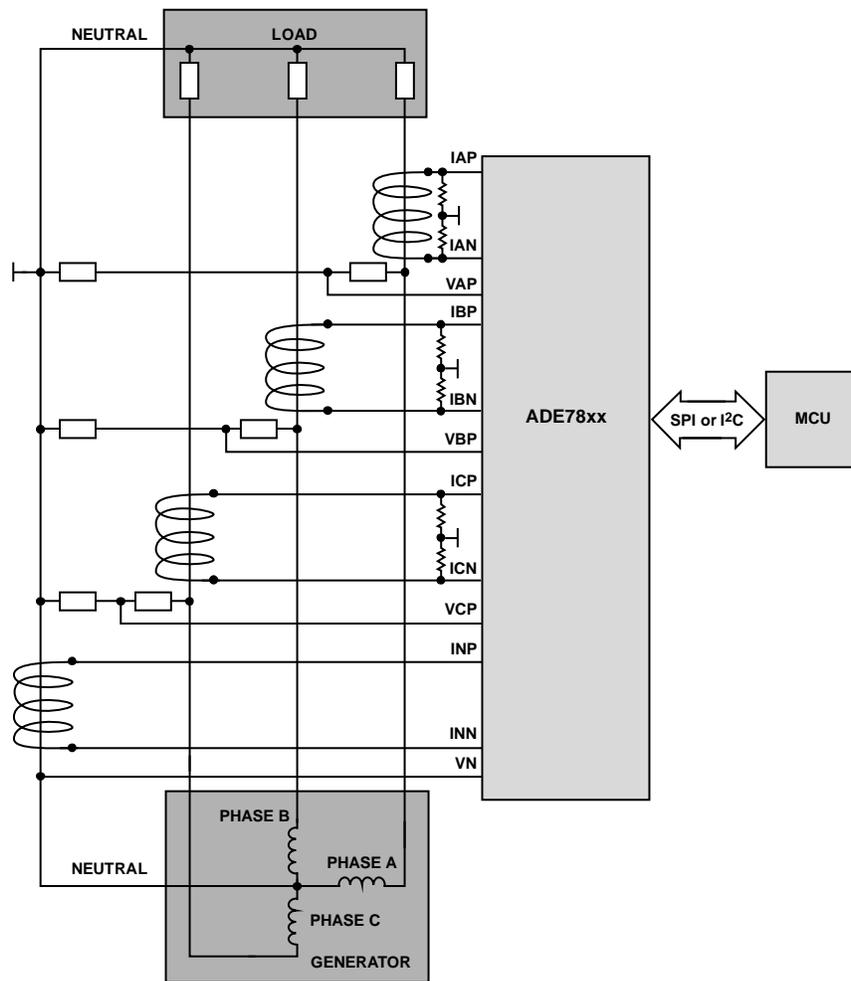

Figure 1. 3-Phase Energy Meter Structure Built Around One of the ADE78xx Family Devices
A 3-phase energy meter built around the ADE7878 a member of the ADE78xx family of devices that has the basic structure shown in Figure 1. The phase and neutral currents are sensed using current transformers (CT), and the phase voltages are sensed using resistor dividers. A micro-controller manages the ADE78xx using I²C or SPI communications. This document explains the process of calibrating this meter. Although the configuration of this meter is 3-phase, four wires, three voltage sensors, the calibration flow does not change if other configurations are used.